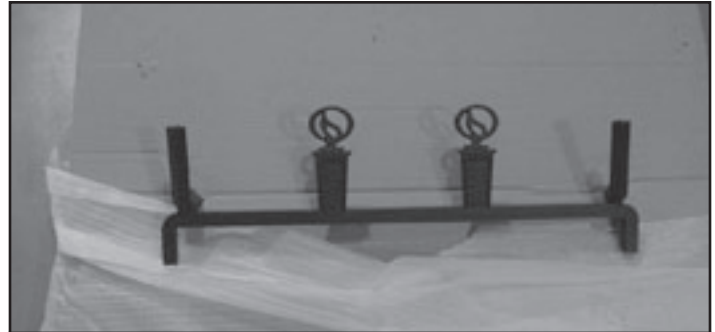

Figure 7.1 Shipping Pack
- Remove shipping pack from front of fireplace taking care not to damage grate. See Figure 7.1.